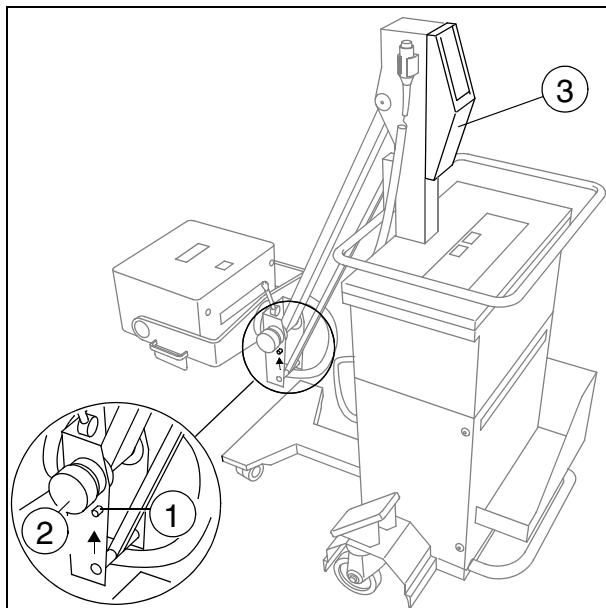

Fig. 20
- Loosen the rotating knob (2/Fig. 20) and unlock the C-arm (1/Fig. 20). It should be possible to move the C-arm without any attached accessories easily across the whole range and the arm should come to a stop in any desired position.
- Remove the cover (3/Fig. 20) at the stand.
- Release the supplemental brake at the C-arm (2/Fig. 20) completely.